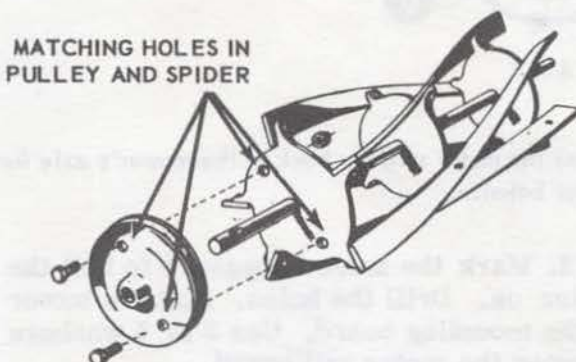

Figure 2
4. Drill a pair of holes in the pulley and matching holes in the reel spider (Figure 2). Although the pulley has a set screw, you'll need this extra insurance against its slipping during operation. When this is done, slip the pulley over the shaft and bolt it on. When pulley is bolted on, put the V belt over the pulley, and assemble the reel in its proper place in the mower.